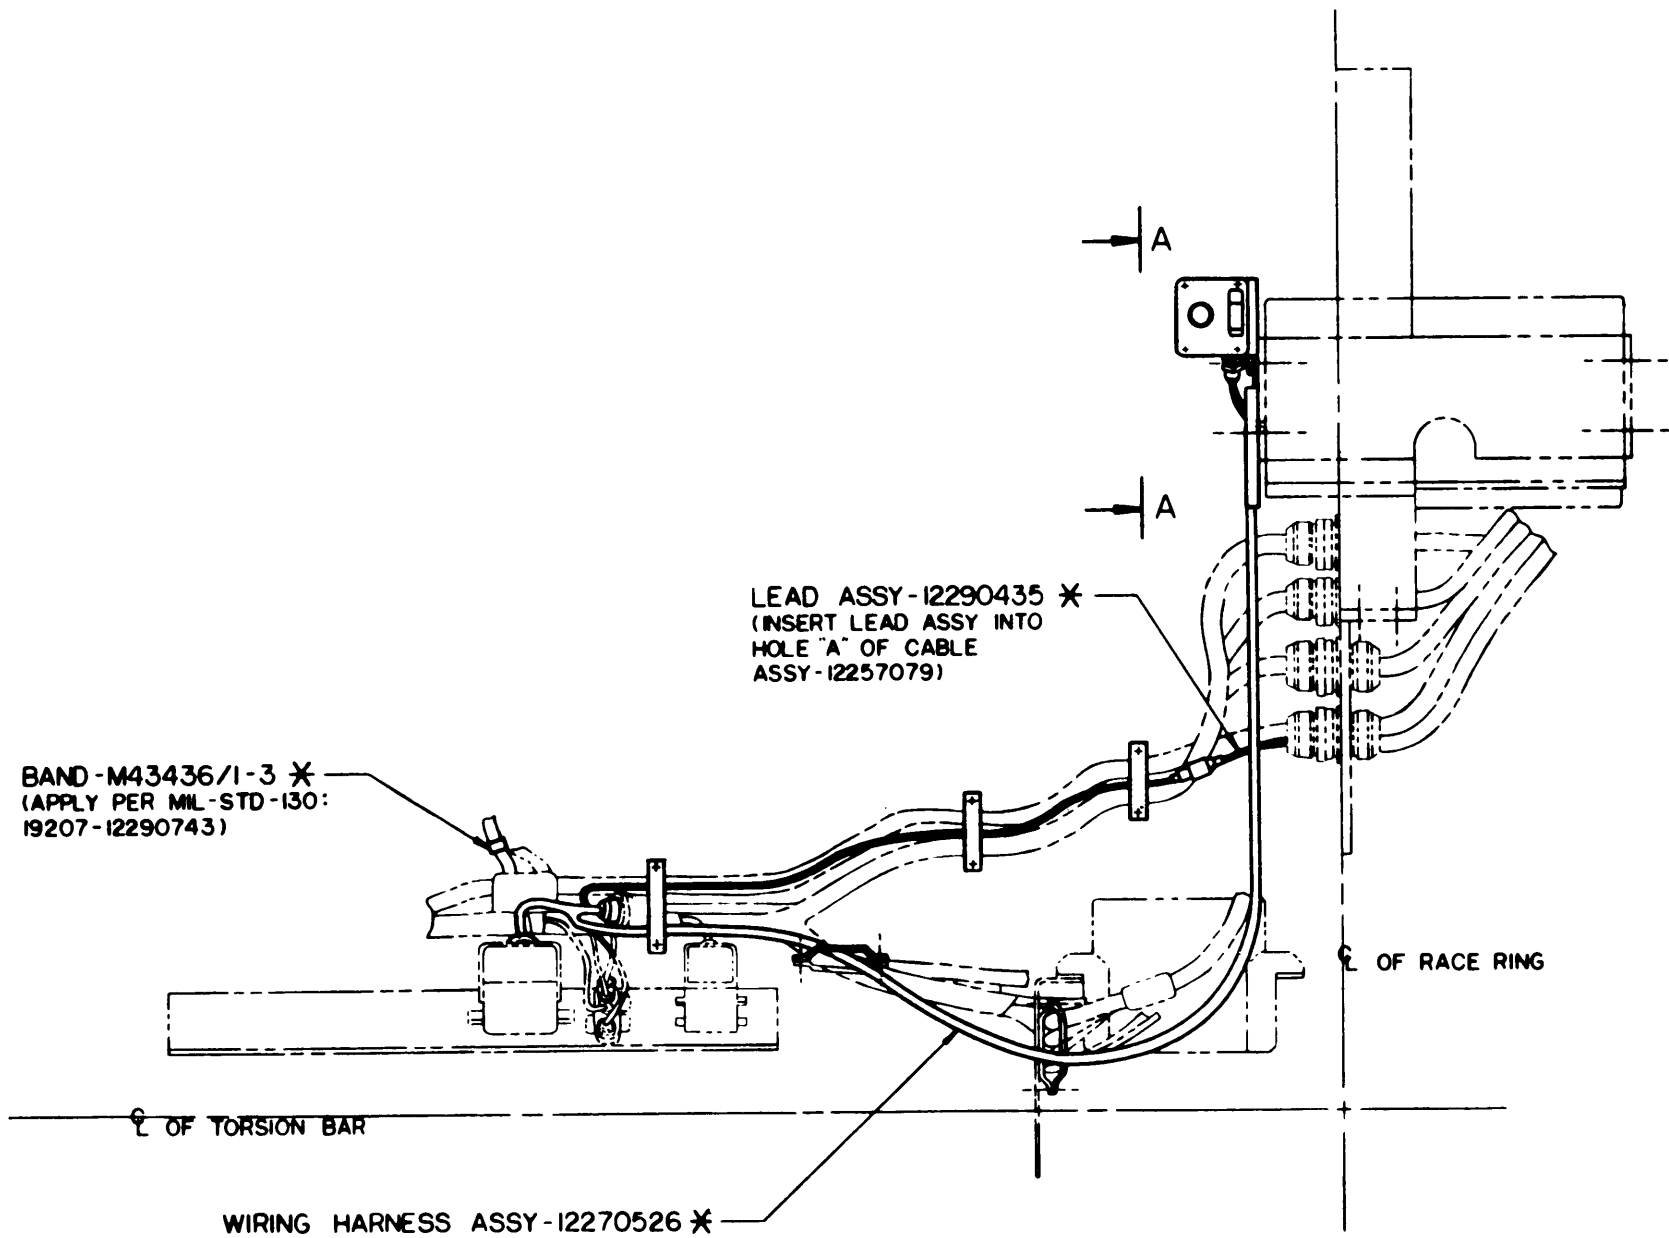

Figure 48. Front View of Harness Kit Installation for M60A1 AVLB
(11) Remove and discard the existing identification band of the starter cable assembly at the positive bus and apply identification band M43436/1-3 with the new part number 12290741 for M48A5 AVLB'S or No. 12290743 for M60A1 AVLB'S (refer to figures 48 and 51).